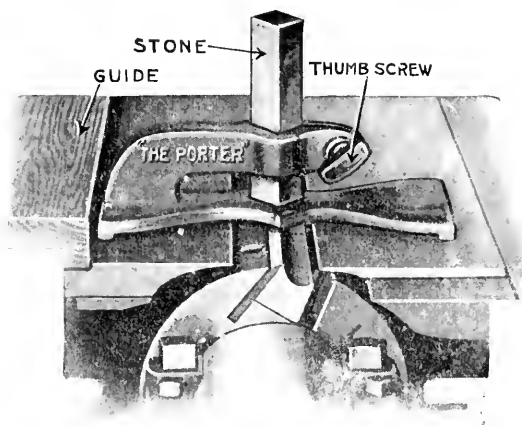

FIG. 11—JOINTER DEVICE
ing. After grinding, it is necessary to set the knives very carefully. To get them quite true, place a try square on the lack table so that the end of the blade projects out over the knife----- test in this manner for the entire length of both blades, and tighten very securely. Then joint, by using the device shown in Fig. 11.
which is the simplest operation on the circular saw (1) make sure that you have the rip saw and that it projects through the table only as far as necessary for the stock which you are going to rip. (2) Make sure that the fence is adjusted for the proper width. Use the scale on the top of the table which is shown in Fig. 11 for adjusting the fence. When you have it approximately adjusted tighten the clamp and then make the adjustment exact by means of